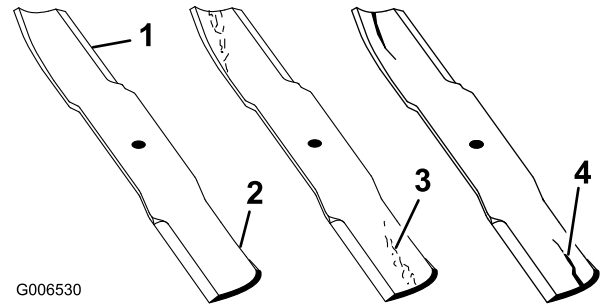

Figure 63
1. Inspect the cutting edges (Figure 63). If the edges are not sharp or have nicks, remove and sharpen the blades. Refer to Sharpening the Blades (page 47).
2. Inspect the blades, especially the curved area (Figure 63). If you notice any damage, wear, or a slot forming in this area (item 3. in Figure 63), immediately install a new blade.